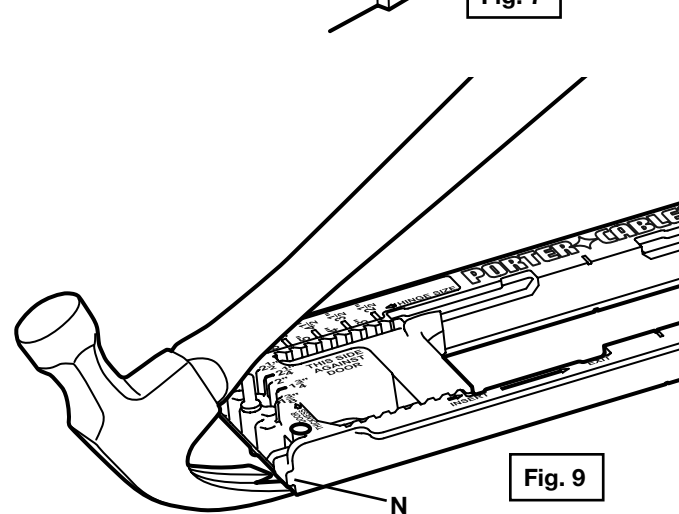

Fig. 9
NOTE: If single-headed replacement nails used, insert claw hammer under the lip (N) Fig. 9 that extends off the end of the template to raise nail head above template. Then insert claw under the nail head (O) and carefully remove nail.